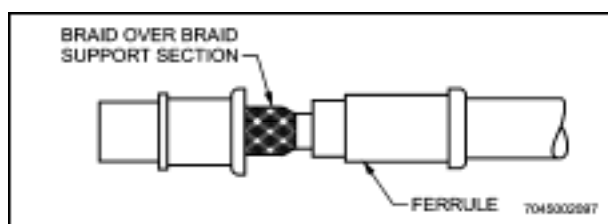

Figure 10-59 Crimped Centre Contact of Braided Coaxial Cable Inserted in Contact Body
- (2) Insert crimped centre contact into contact body until cable dielectric bottoms against dielectric inside contact body. Braid should fit over braid support section of contact. (See Figure 10-59)